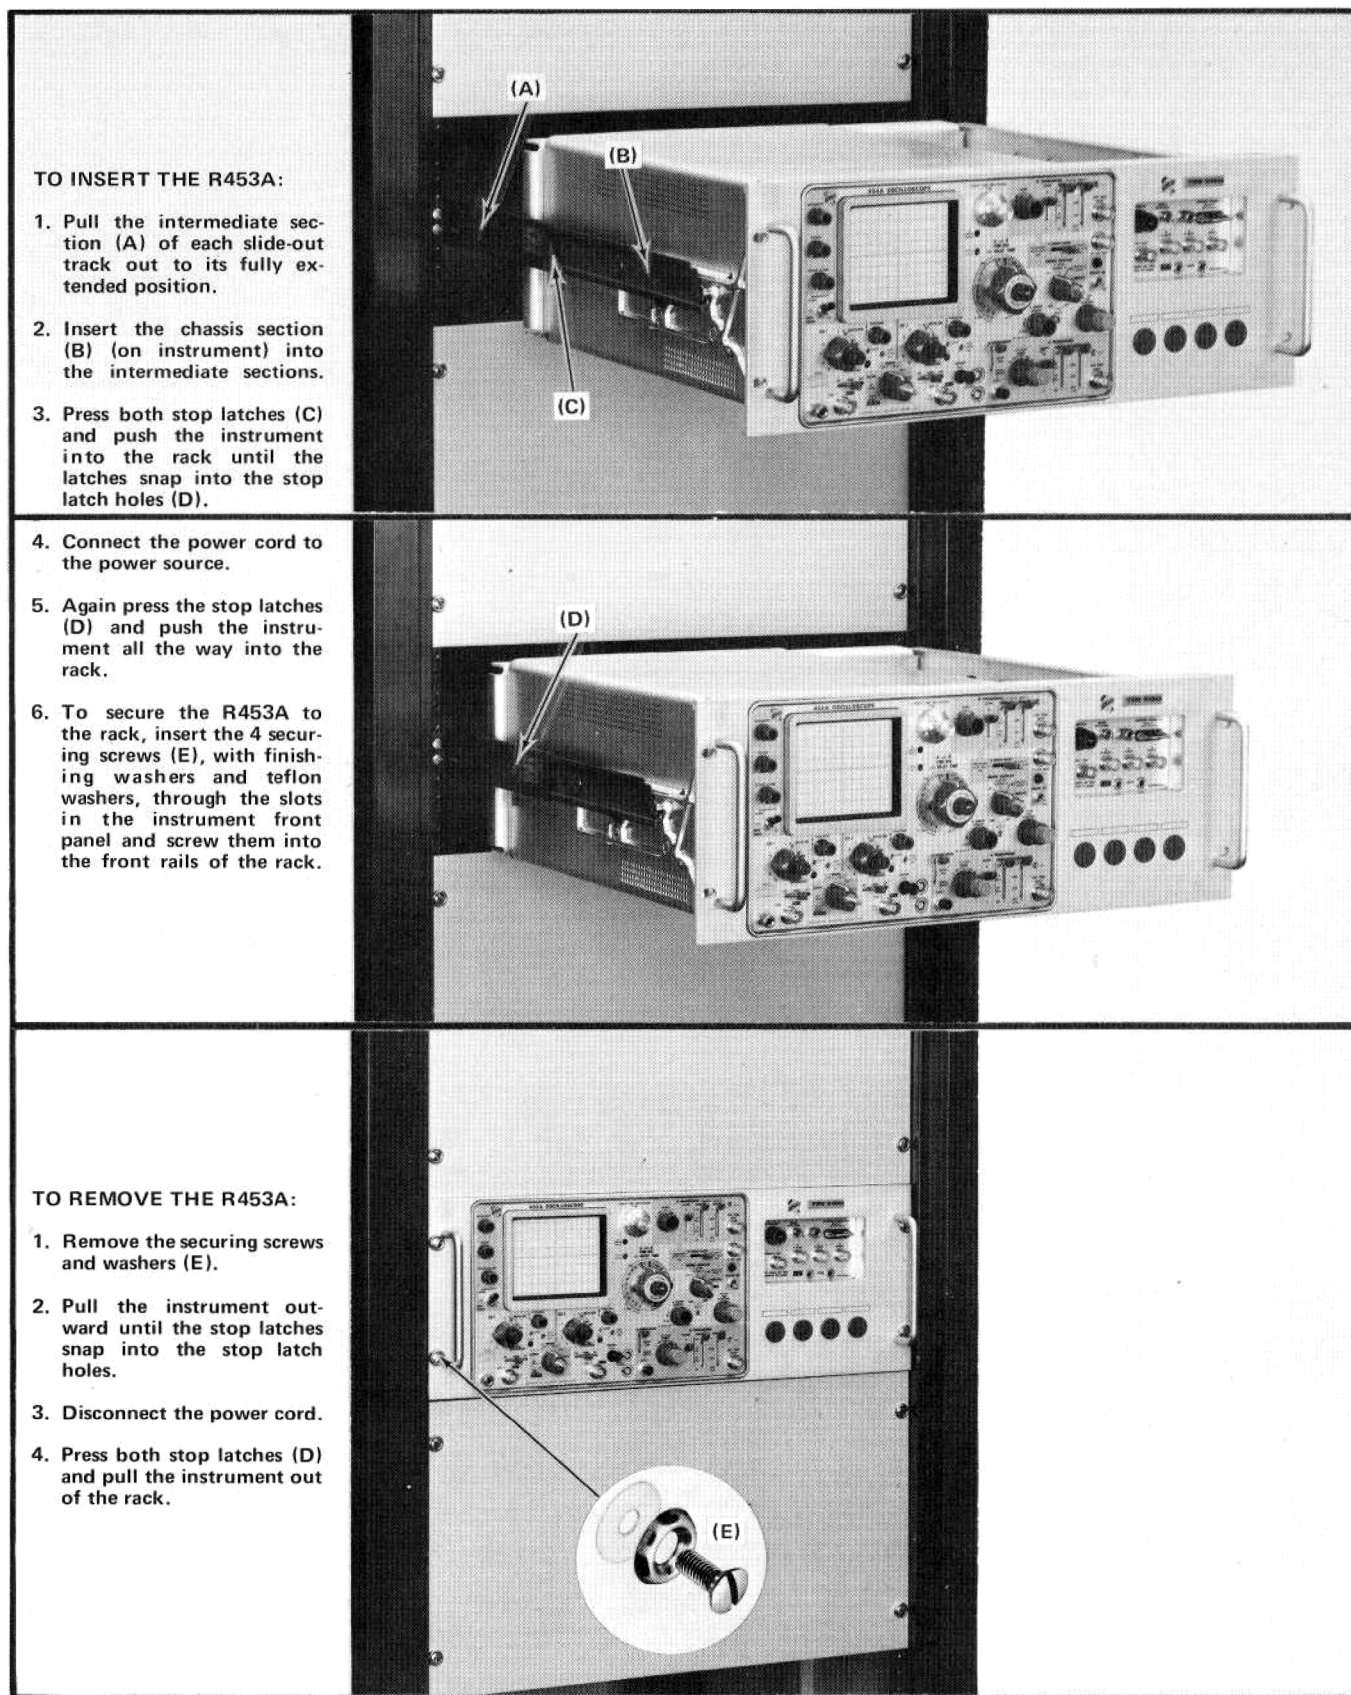

Fig. 6-8. Procedure for inserting or removing the instrument after the slide-out tracks have been installed.
6. Refer to Fig. 6-8 to insert the instrument in the rack. Do not connect the power cord or install the securing screws until all adjustments have been made.
13. Push the instrument all the way into the rack and secure it to the rack with the securing screws and washers as shown in Fig. 6-8.
the instructions given in Fig. 6-8. No further adjustments are required under normal conditions.